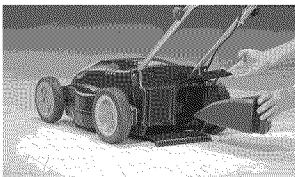

Figure 10 - Mulching Plug
3. Insert mulching plug until the end of the plug is flush with the discharge hole. (see Figure 10).